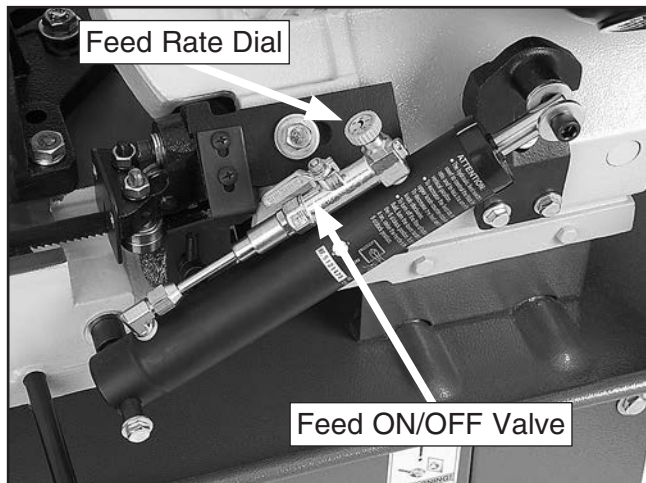

Figure 41. Location of feed ON/OFF valve.
4. Close feed ON/OFF valve shown in **Figure 41**, to lock bow and blade a few inches above workpiece.
6. Open the ON/OFF valve, then slowly rotate the feed rate dial clockwise to a slow feed rate until saw begins to cut workpiece (see **Figure 41**).